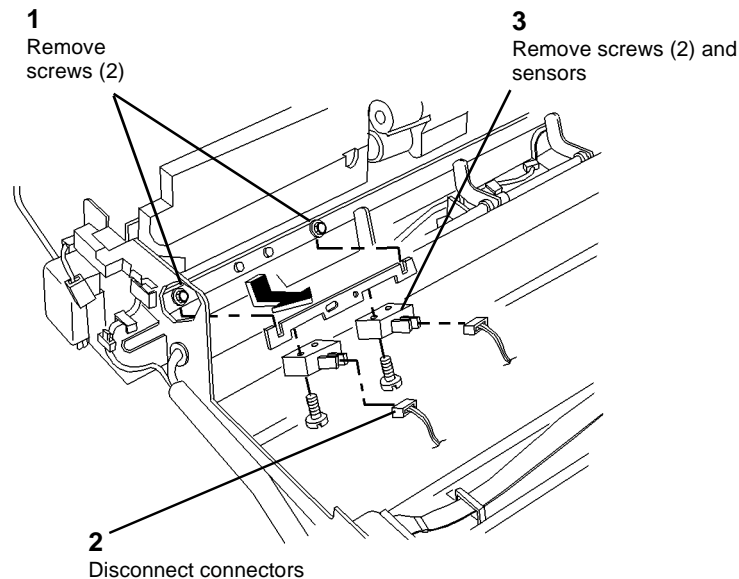

Figure 1 Removing Size Sensors 1/2
6. Remove Size Sensors 1/2 (Figure 1).